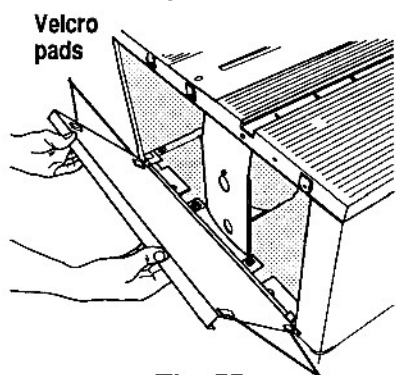
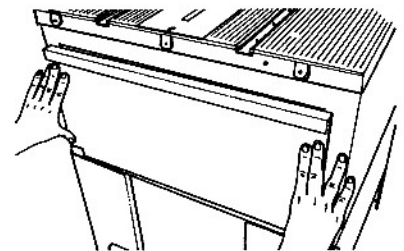
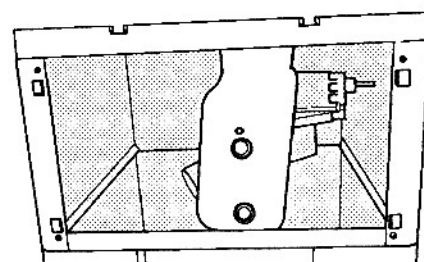

Fig. 55
Fig. 56
Fig. 57
61. Peel the remaining backing from the Velcro pads. See Fig. 55 to view all four Velcro pads properly attached to the back panel.
62. Align the back panel, as in Fig. 55, making sure the two bent tabs rest on the cabinet edge. Carefully but firmly press the back panel against the cabinet, as shown in Fig. 56. Fig. 57 shows the placement of the Velcro pads after removing the back panel.